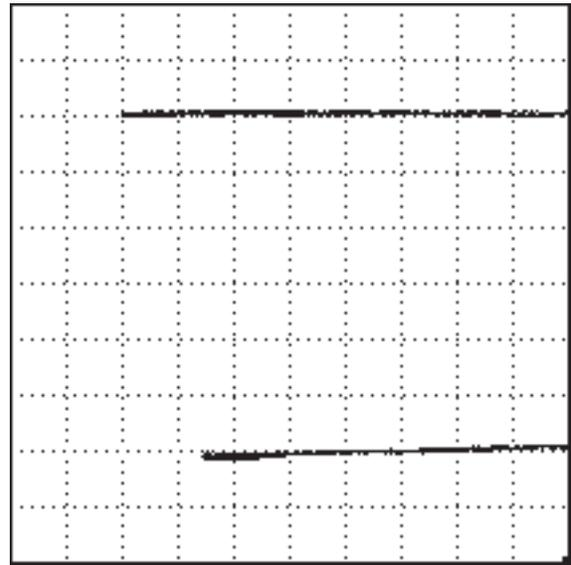

Figure 4-8
16. Place probe back on Position 2 and adjust Gain so that the signal moves down (vertically) 6 divisions. If necessary, re-adjust the Angle so that the Liftoff line is horizontal. (see **Figure 4-8**).